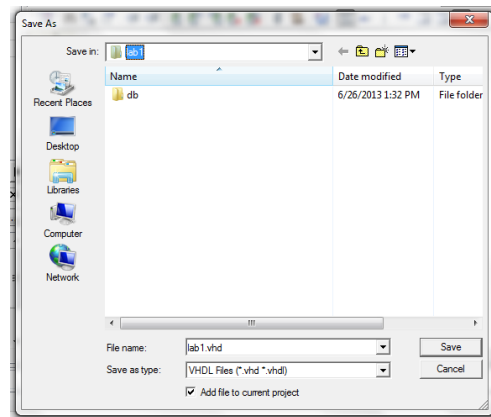

Figure 6: Save As dialog box
2. Save this new file by going to **File** → **Save As** → **lab1.vhd** → **SAVE** as shown in Figure 6.